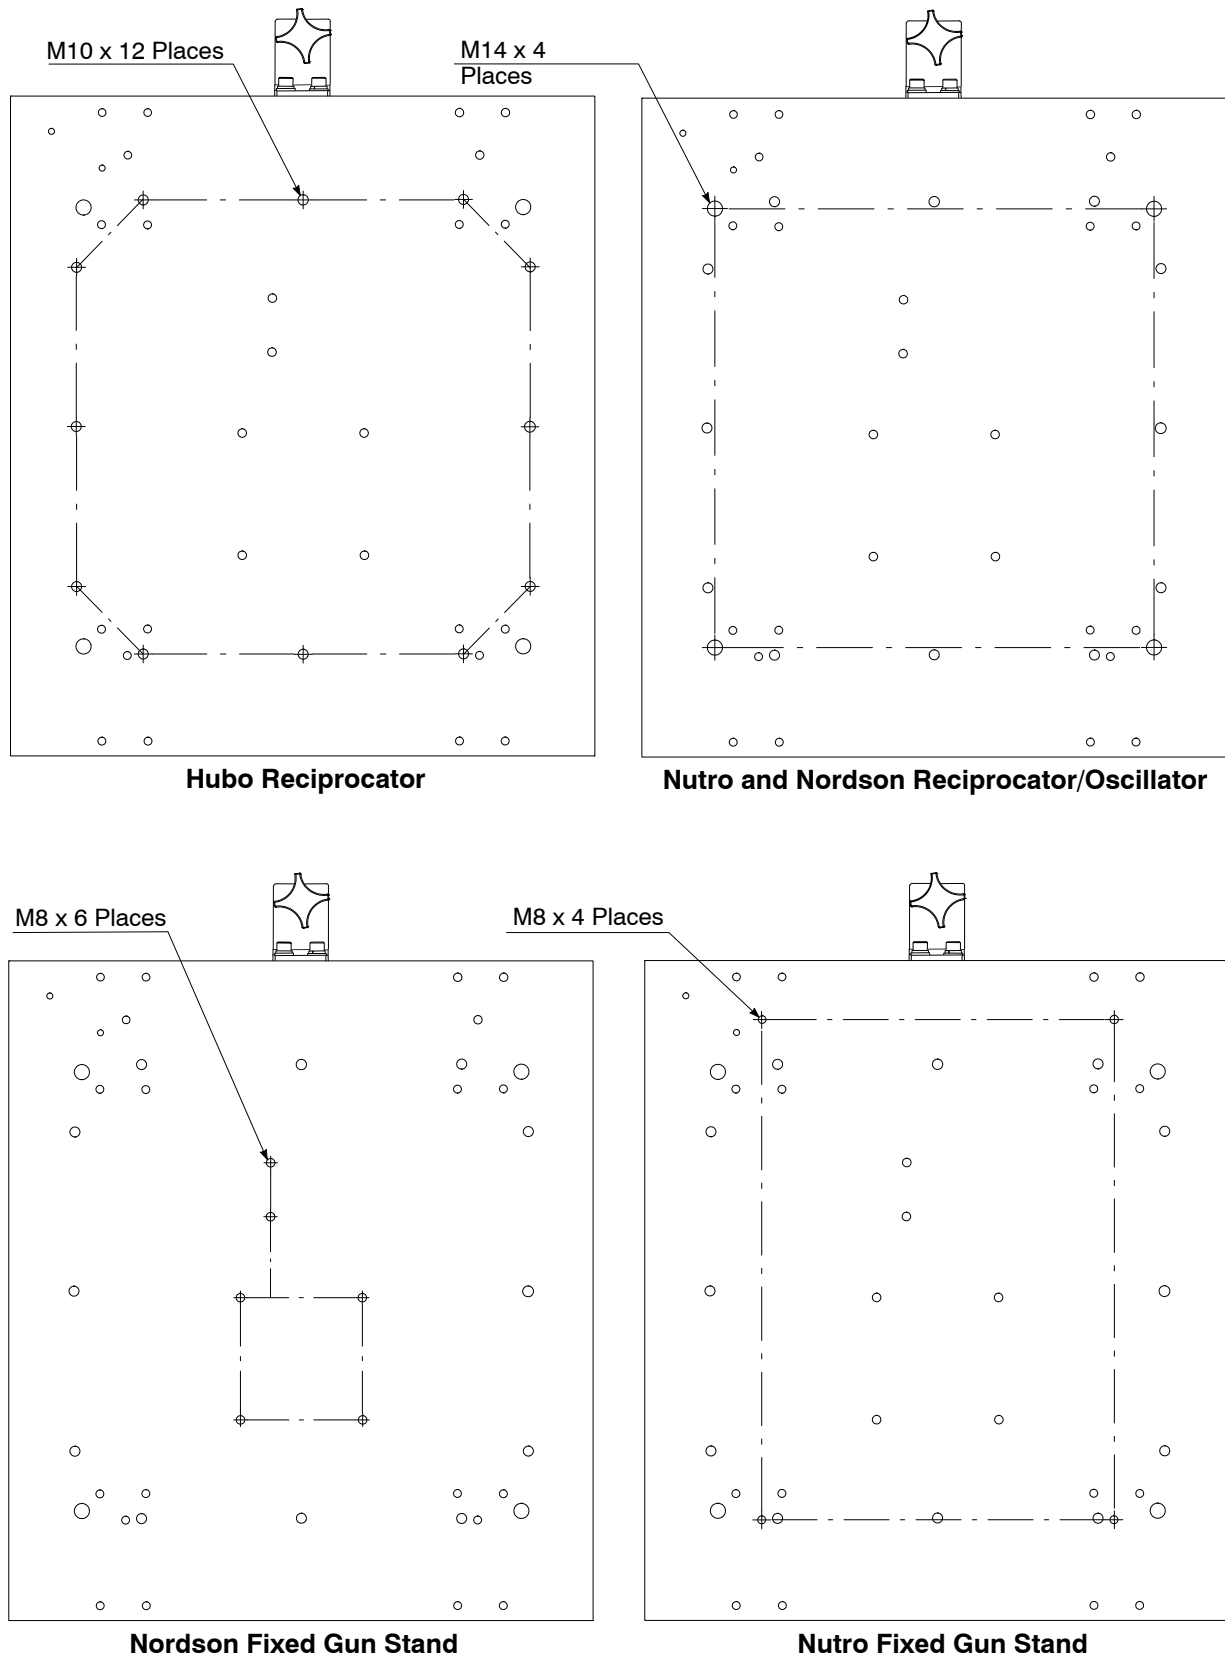

Figure 2 Carriage Hole Patterns
3. See Figure 1. Install the oscillator or fixed gun stand onto the carriage assembly (3) using the supplied hardware. Figure 2 shows the carriage hole patterns for various fixed gun stands, oscillators, and reciprocators.
6. Secure the positioner to the floor using the anchor bolts (4).